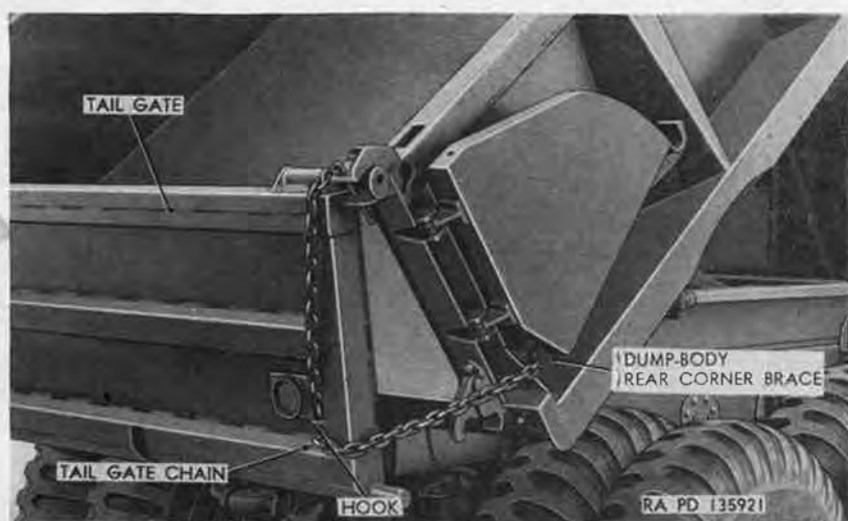

Figure 97. Dump body tailgate arranged for spreader operation.
- (1) Position truck for dumping, and stop the truck (par. 46c).
- (2) Thread the tailgate chains (fig. 97), one on each end of the tailgate, around the hook at the lower corner of each end of the tailgate and through the hole at the lower end of each rear corner brace. Adjust the chain length to limit the tailgate opening (and thereby restrict the flow of material to be spread) as desired.